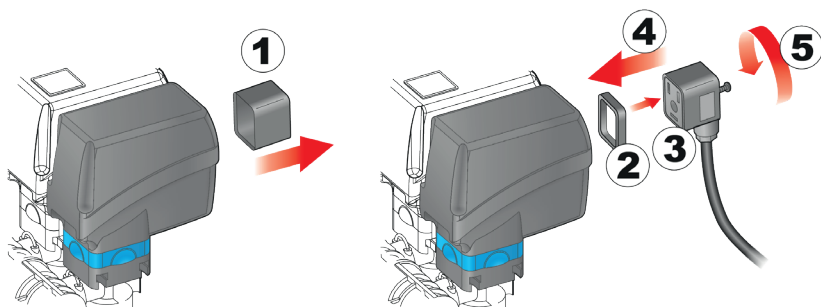

Fig. 23
- All valve connectors must be provided with seals before being connected (Fig. 23).
- Remove the protection cap (1, Fig. 23) from the electric valve.
- Place the seal (2) onto the connector (3), and push the connector fully on (4): **be careful not to bend the contacts upon insertion on the valve.**
- Tighten the screw (5) fully home.